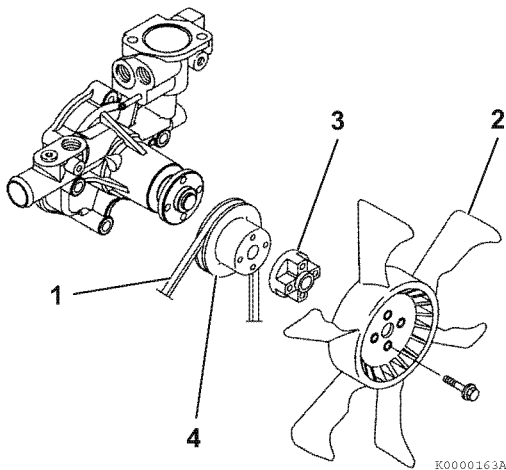

Figure 7-12
2. Remove the engine cooling fan guard (if equipped), engine cooling fan (**Figure 7-12, (2)**), spacer (**Figure 7-12, (3)**) if equipped, V-pulley (**Figure 7-12, (4)**) and cooling fan V-belt (**Figure 7-12, (1)**).